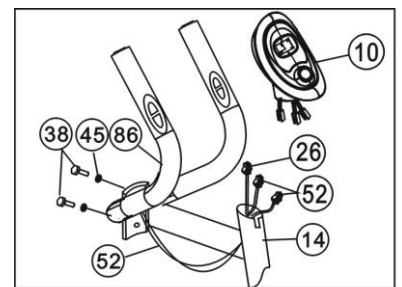

Figure 4
- Insert the Pulse wires (52) to the holes on the back of the Front upright frame (14), and pull them out from the top of the Front upright frame. Attach the hand pulse tube (86) on the admire holes on the Front upright frame(14) with 2pcs of M8X20 bolts (38), Arch washers(45). (Refer picture 4)
- Insert the Pulse wires (52) and Computer wire (26) to the holes on the back of the Computer (10).
- Attach the Computer (10) to the top of the Front upright frame (14). (Refer figures 4)